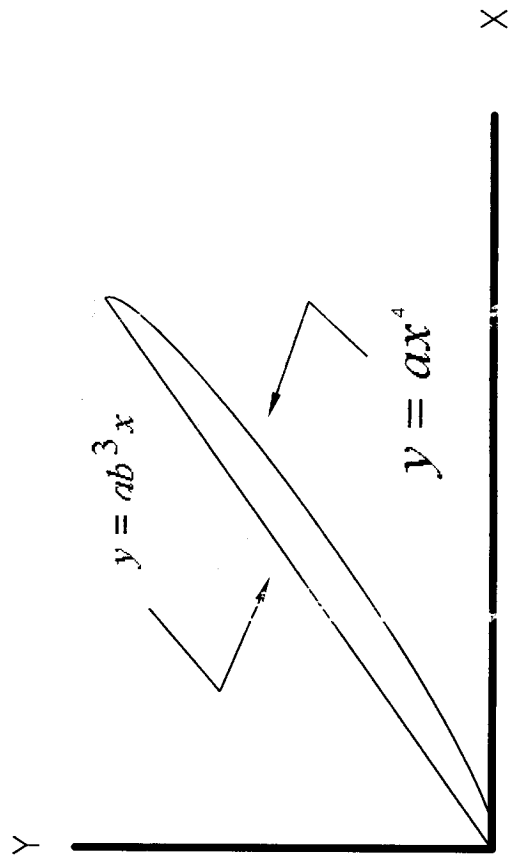

Fig 4
4. The figure (*Fig 4*) displays a plate of constant thickness and uniform material. The plate is bounded by the straight line from above and a 4th order parabola from below. Consider the constants "a" and "b", the thickness of the plate and the density of the material as given. Derive the expression for the x-coordinate, $\bar{x}$, of the centre of mass for this body as function of the constants "a" and "b".